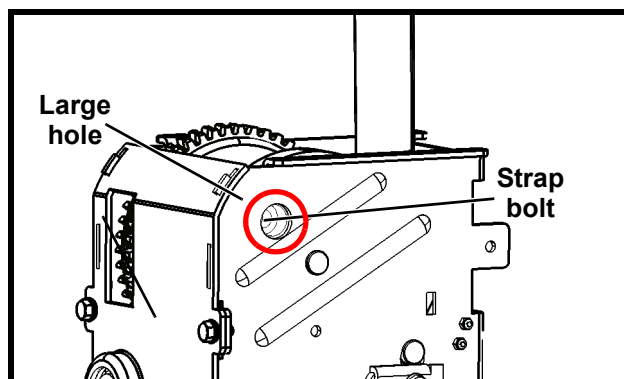

Fig. 13
- 4) Rotate the drum to align the strap bolt with the large hole on the frame (see Fig. 13).